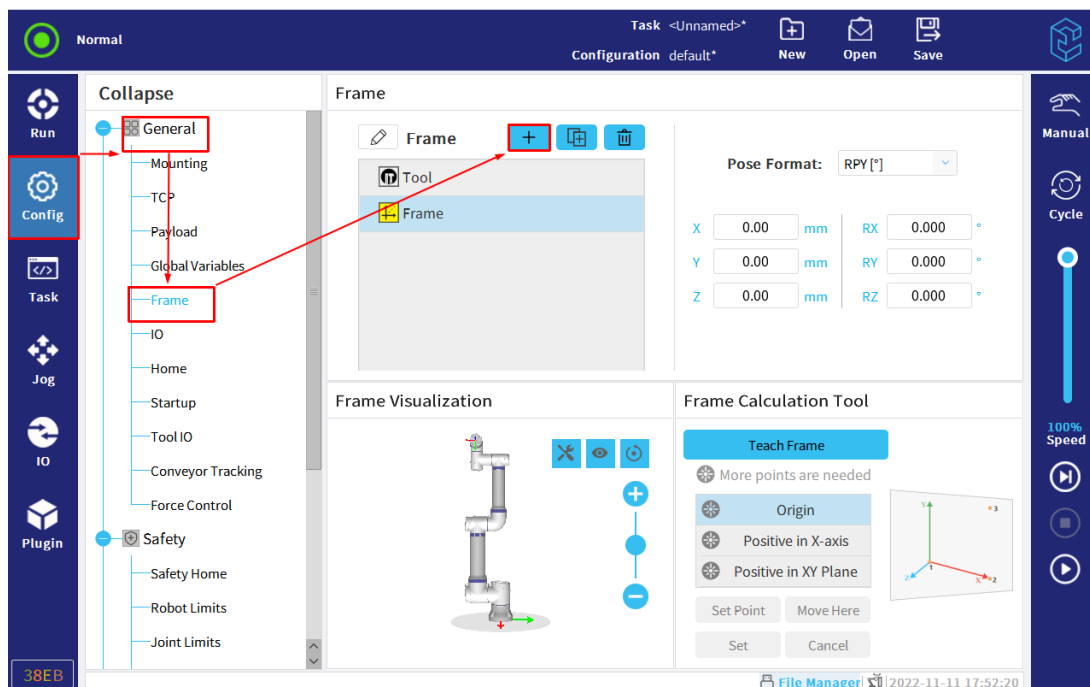

Figure 3-45 : Add frame
1. Click "Config > General > Frame", click , as show in **Figure 3-45** .